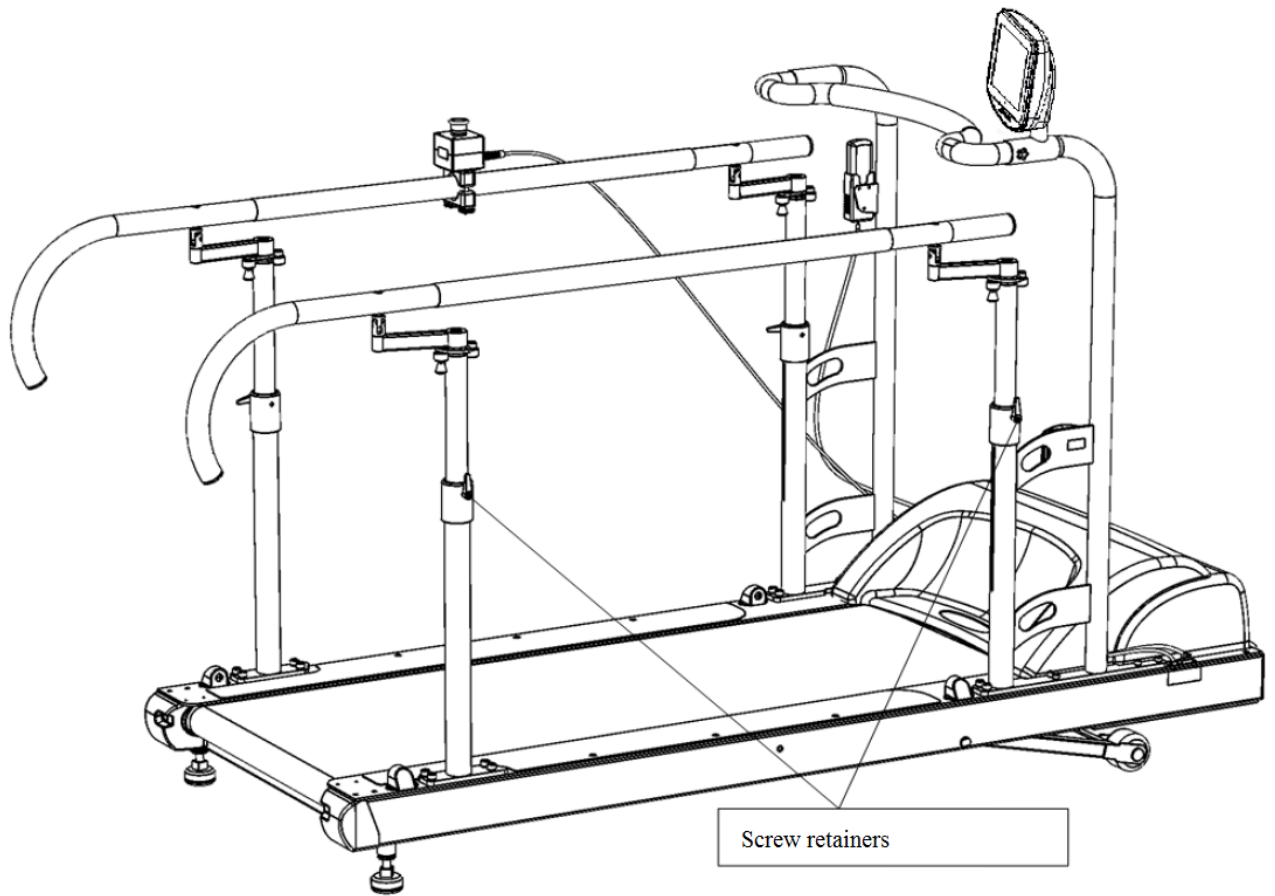

Figure 9 – Location of adjustable handrail fasteners for height adjustment
- Unscrew the handles of fasteners that hold the handrail (see Figure 9).